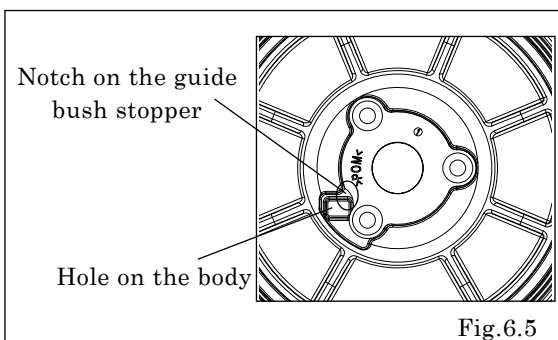

Fig.6.5
- When installing the guide bush stopper, please place its notch to the hole on the body side. [Fig.6.5]